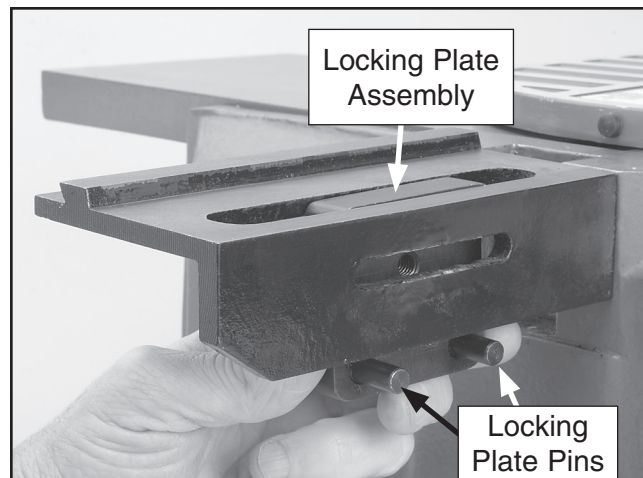

Figure 10. Inserting the locking plate.
3. Insert the locking plate assembly into the fence support, positioning it so the two pins are against the bottom edge of the fence support as shown in **Figure 10**.